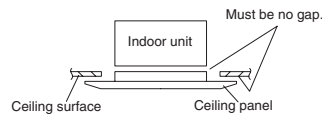

Fig. 7-7
- (8) Verify that the panel is tightly attached to the ceiling.
- At this time, make sure there is no gap between the indoor unit and the ceiling panel, or between the ceiling panel and the ceiling surface. (Fig. 7-7)